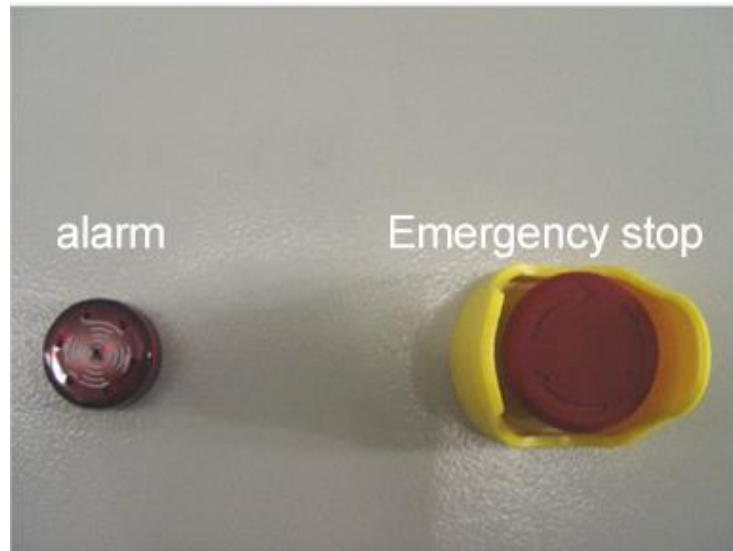

Figure 7.5 Cabinet door emergency stop
(8) Follow the procedure to swing in the upper circuit breaker, turn the switchgear to hot standby status, and prepare to feed the main power to the FDSVG unit.
(9) During the process of main power delivery, there are staffs in the backstage control room and FDSVG installation room to observe the device and inform each other the status, if any abnormality occurs during the process of main power delivery, please disconnect the FDSVG upper high voltage switchgear in time.
(10) After the main power is fed into the FDSVG, each power unit starts to work and the unit carries out self-test. The color of the background of "Closing condition" on the monitoring page of HMI unit changes to "green", which means switch-on is allowed; if it shows red, switch-on is not allowed, click "Switch-on condition" to check and process the items that show red in the pop-up window.
(11) Check whether the unit bus voltage displayed on the HMI "Bus voltage" page is even (the same phase difference value $< 140V$). Unscrew the cabinet door emergency stop (as shown in Figure 7.5), press the "switch-on" button on the device monitoring page, the device will enter the charging state. At this time, the "Ready" light on the monitoring page of the device will be on.